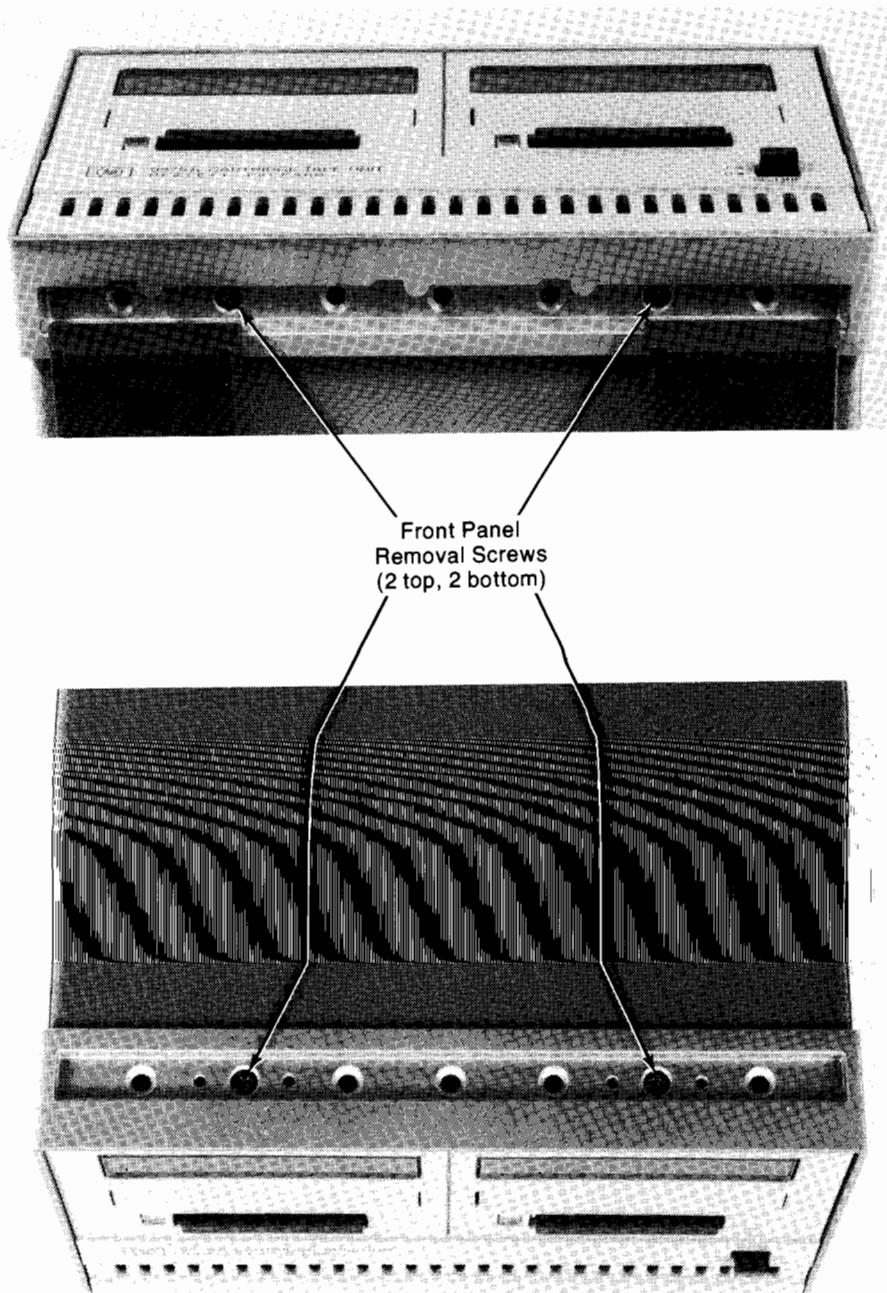

Figure 4-1: Front Panel Assembly Removal
The front panel removal requires you to remove the plastic insert which covers the retaining screws. The front panel can be removed by removing the two (2) top and two (2) bottom retaining screws, as shown in Figure 4-1.